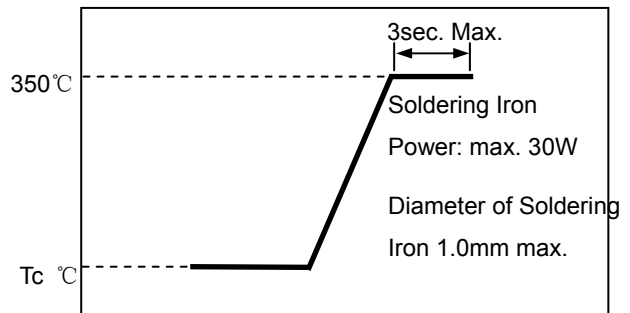

Fig.10.2-1
- Please refer to Fig. 10.2-1.